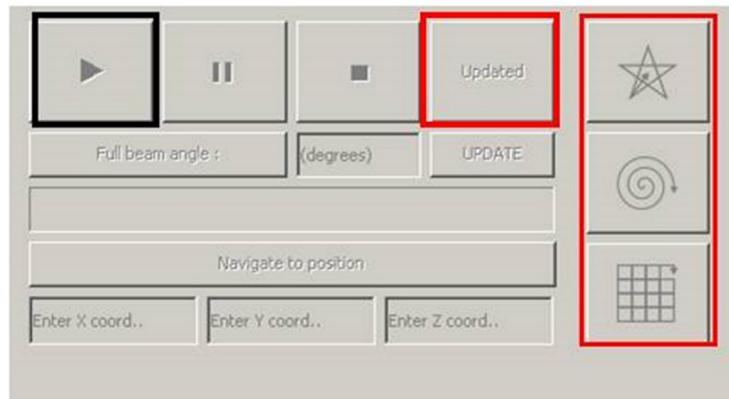

Figure 11: Automated pattern interface.
- a. Select Grid, Star, or Spiral (Figure 11). **For the Henry Bigelow calibration, use the Grid pattern for the automatic calibration session.** The other patterns have not been thoroughly tested yet.
Click the “UPDATED” button, and then click on the VCR “Play” button (Figure 11). At this point, the automatic calibration session will begin.